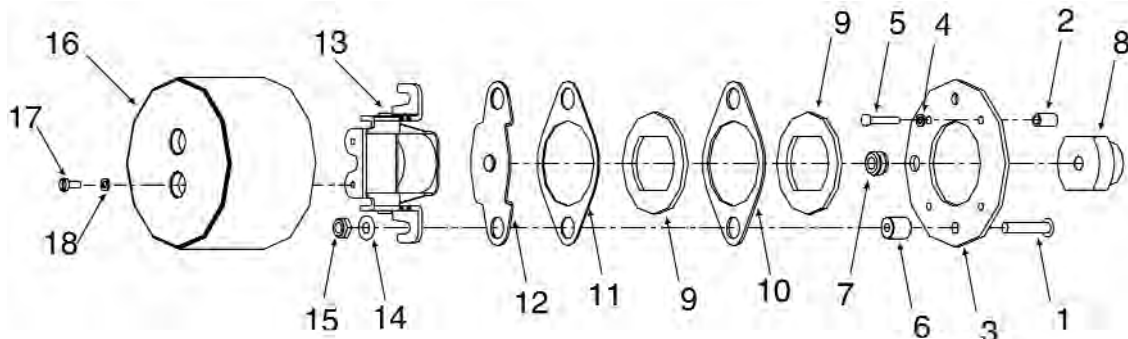

Figure 5. Brake Assembly Components
1. Disconnect solenoid (25) from circuit and remove cover (16).
2. Remove locknuts (15), washers (14), operator assembly (13), pressure plate (12), stationary disc (11), friction disc (9), stationary disc (10), and friction disc (9).
3. Replace worn discs and assemble in reverse order. Discs must slide freely on hub (8).
NOTE: Stationary disc (10) is .060 in. thick, and must be in the location shown in Fig. 5. Stationary disc (11) is .030 in. thick, and must be located as shown.
4. Before installing operator assembly (13) turn adjusting screw (23) counterclockwise 4 or 5 turns to allow operator to be bolted down without interference.